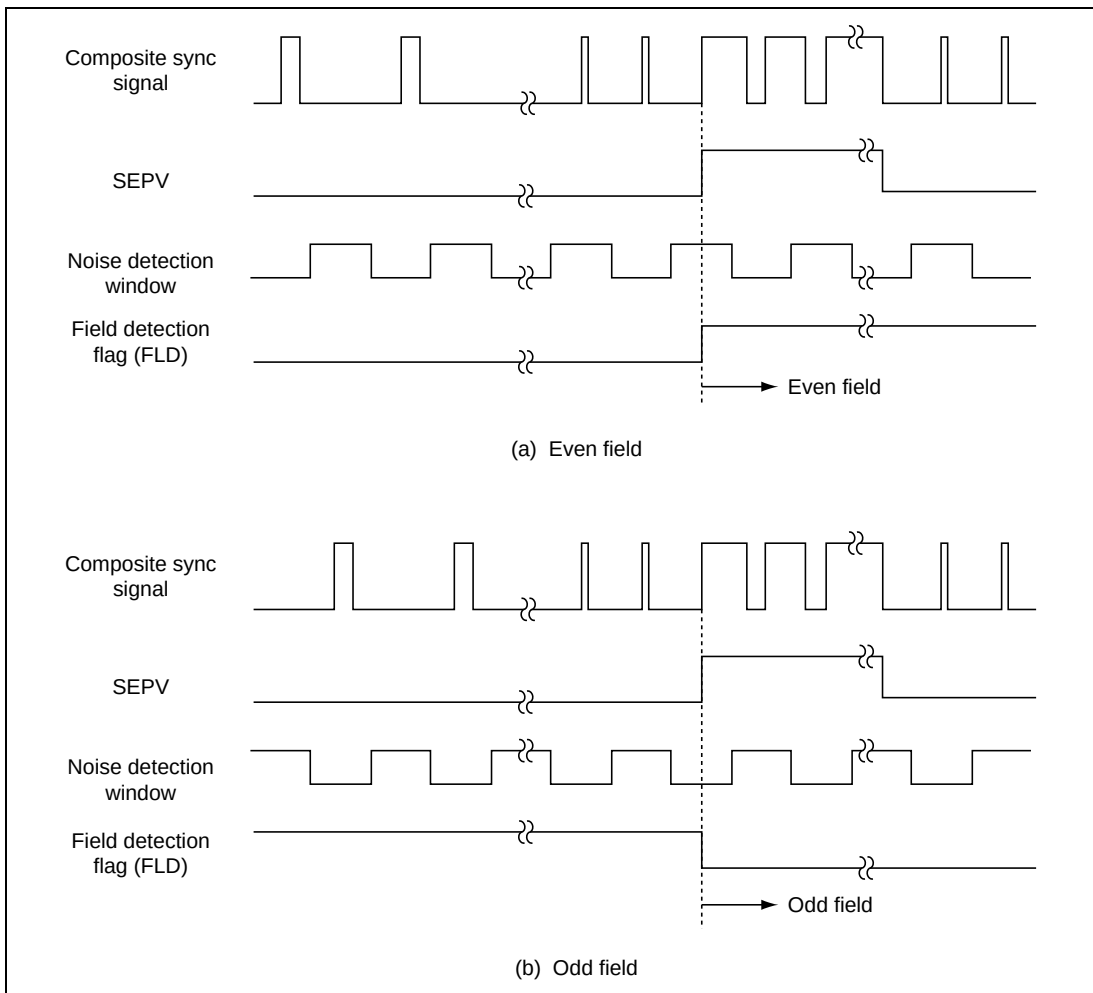

**Figure 26.74 Field Detection**
**Bit 1—Field Detection Flag (FLD):** Indicates whether the field currently being scanned is even or odd. See figure 26.74.